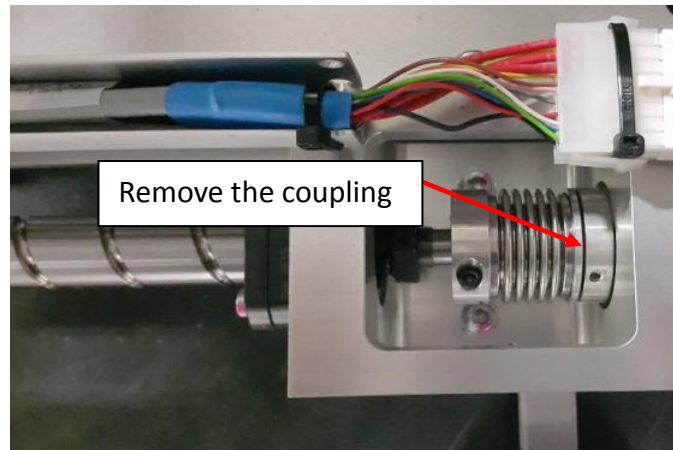

Figure 4 Motor Mount
4. Remove the coupling shown in Figure 4.